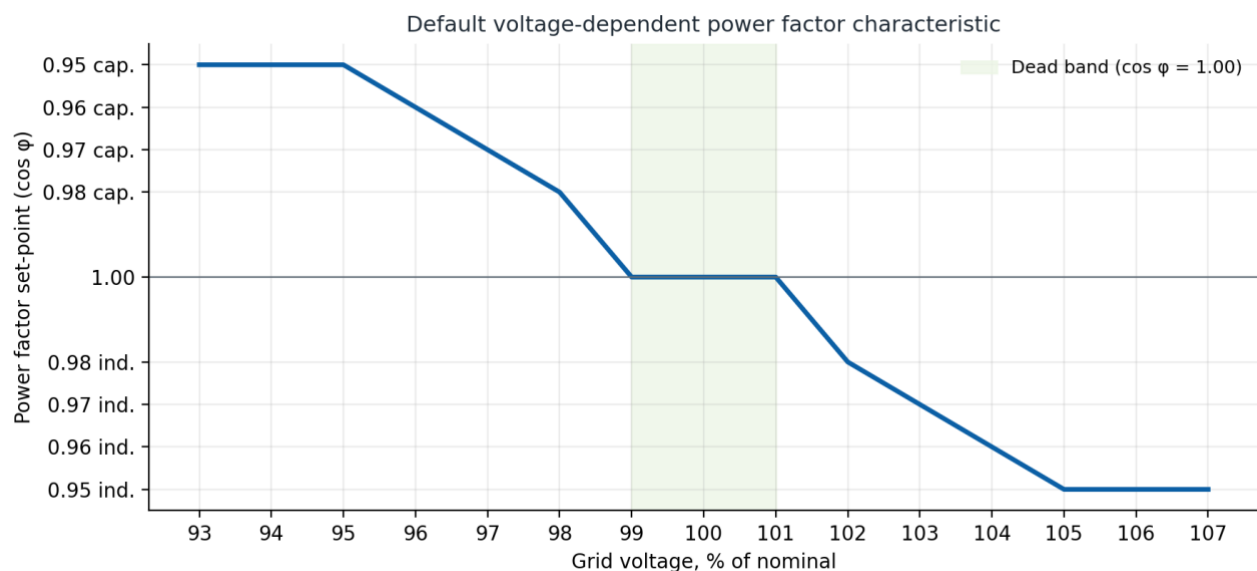

Figure 3. Default $Q(U)$ characteristic – power factor set-point versus grid voltage
2. Every 10 seconds the park manager compares the measured line-to-line voltage with the nominal value (10 kV for medium-voltage connections in the 9–11 kV range) and calculates the local power factor set-point from the characteristic in Figure 3.